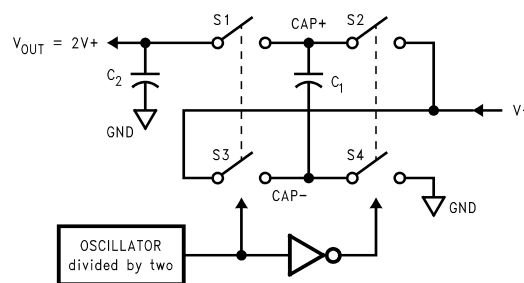

Figure 9. Voltage Doubling Principle
The LM2765 contains four large CMOS switches which are switched in a sequence to double the input supply voltage. Energy transfer and storage are provided by external capacitors. Figure 9 shows the voltage conversion scheme. When S_2 and S_4 are closed, C_1 charges to the supply voltage V_+ . During this time interval, switches S_1 and S_3 are open. In the next time interval, S_2 and S_4 are open; at the same time, S_1 and S_3 are closed, the sum of the input voltage V_+ and the voltage across C_1 gives the $2V_+$ output voltage when there is no load. The output voltage drop when a load is added is determined by the parasitic resistance ($R_{ds(on)}$ of the MOSFET switches and the ESR of the capacitors) and the charge transfer loss between capacitors. See Application and Implementation for more details.
- R_{SW} is the sum of the ON resistance of the internal MOSFET switches shown in Figure 9. R_{SW} is typically $8\ \Omega$ for the LM2765. (1)